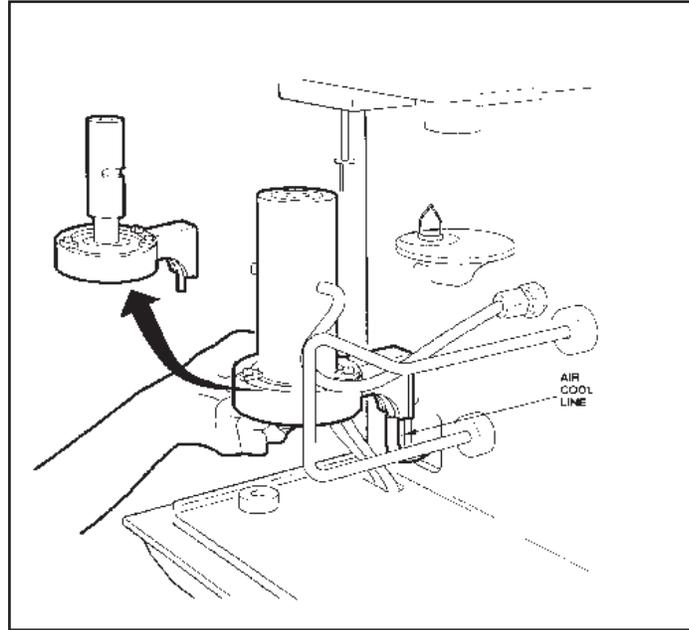

Figure 5.4
5. Unplug and remove the furnace arm/base from the instrument cabinet (Figure 5.4).
7. Unplug the Air Cool line from the bottom of the furnace arm/base (Figure 5.4). The furnace arm/base is now completely free of the instrument.